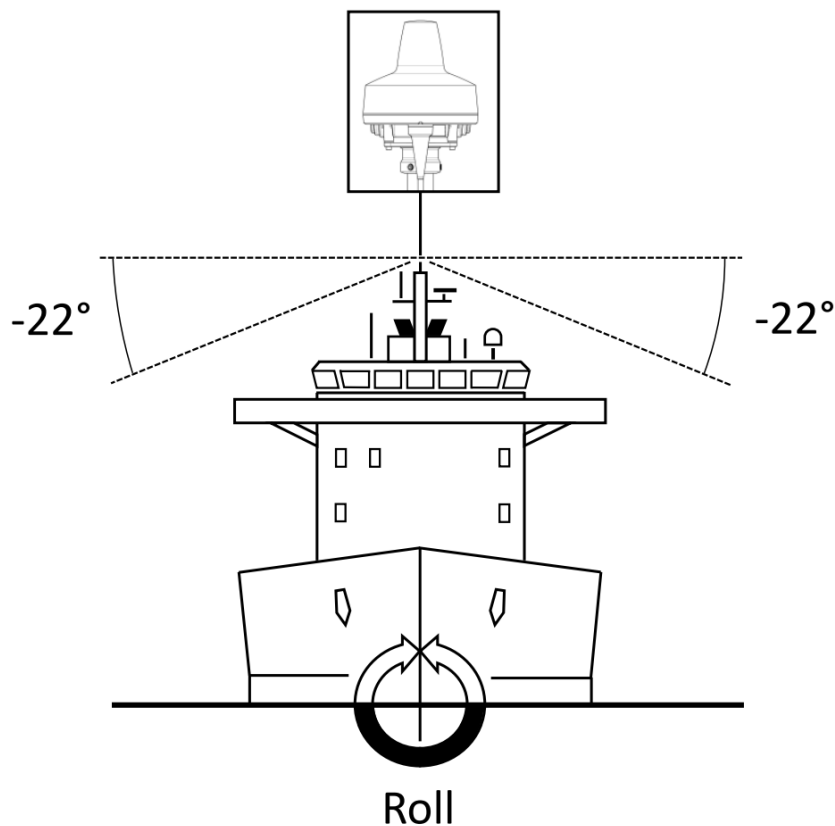
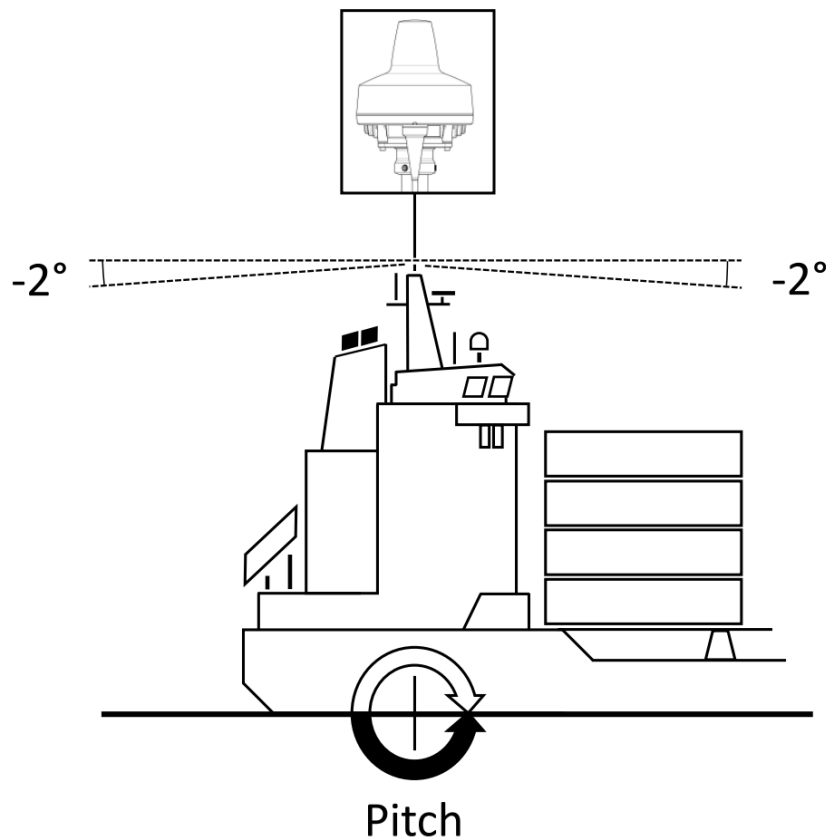

Figure 16: LT-4230 AU Installation (roll: clear view angle below the horizontal plan)
Figure 17: LT-4230 AU Installation (pitch: clear view angle below the horizontal plan)
**IMPORTANT:** For best possible performance of the LT-4200 system, the LT-4230 Antenna Unit must have free line of sight to the Iridium satellites as illustrated in Figure 16 and in Figure 17 (clear view angle below the horizontal plan). To have the best possible performance obstructions should be below the marked lines of these two illustrative figures.